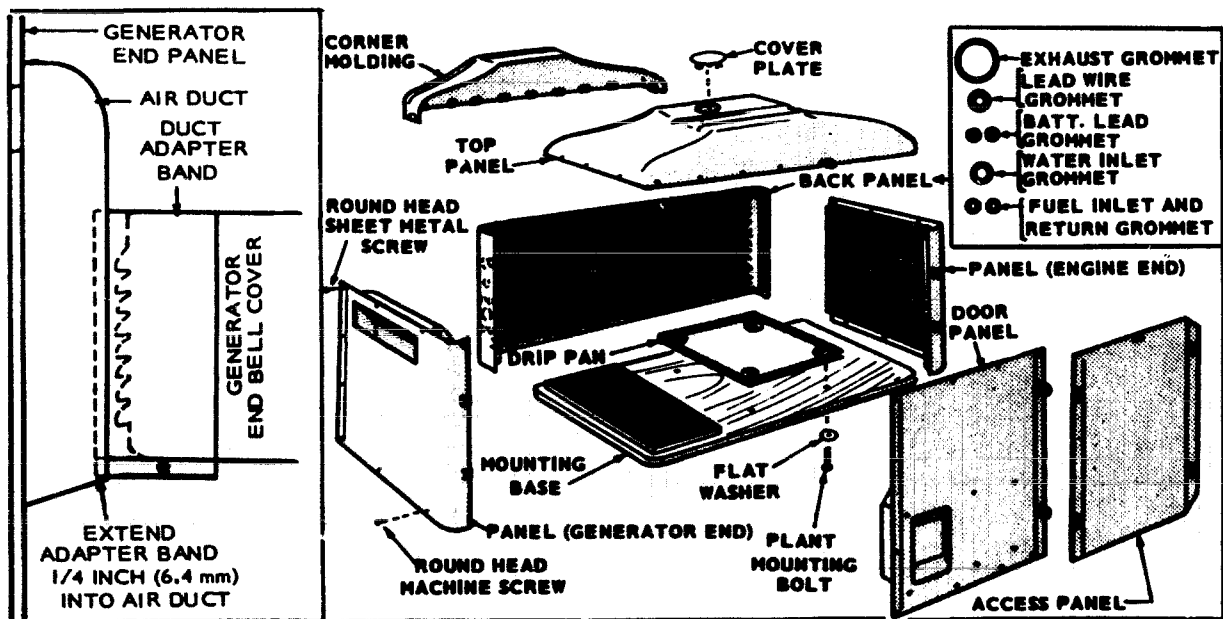
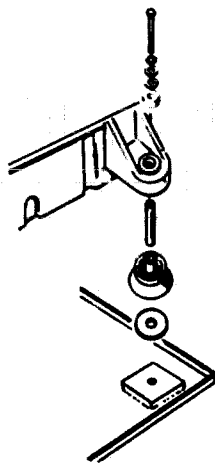

FIGURE 1. SOUND SHIELD COMPONENT ARRANGEMENT
FIGURE 2. MOUNTING CUSHIONS
The installation of a sound shield to enclose the generator set (with or without a heat exchanger) must allow for the exhaust outlet being above the load water line. The door panel and generator air outlet must be on the accessory side of the set. See Figure 1. The enclosure measures 40" (1016 mm) long x 24" (610 mm) wide x 29" (737 mm) high (MDJB and MDJE) and 56" (1422 mm) long x 25" (635 mm) wide x 29" (737 mm) high (MDJC and MDJF). Refer to the "J" Marine Operator's Manual and Parts Catalog for generator set details.
3. Mount wood base using machine screws. **NOTE:** The generator end and the engine end mounting cushions look alike, but differ in respect to rubber hardness. Read the part number on each cushion. The highest numbers have the hardest rubber and belong under the generator end. The lowest numbers belong under the engine end of the set. See Figure 2. Position at least two stringers under base as close as possible to the mounting bolts.
6. Install duct adapter band on end of generator (Figure 1). Do not tighten.
8. Adjust duct adapter band so it extends 1/4" (6.4 mm) into air duct (Figure 1). Tighten adapter band.
Figure 1 below shows the standard wiring. Figure 2 shows the wiring with the pilot relay added.
Install relay on rear of swinging panel where it will not interfere with other components with panel closed. Remove wire from printed circuit board module A7-receptacle pin 1 (goes to selector switch S2-pin 3). Reconnect this wire to relay K7-coil contact B. Add a new wire from terminal TB1-B+ to relay K7-pin 7. Add another new wire from relay K7-pin 4 to selector switch S2-pin 3. Add a third new wire from Relay K7-coil contact A to terminal TB1-Ground. Install the diode across coil contacts A and B as shown in Figure 2 below.